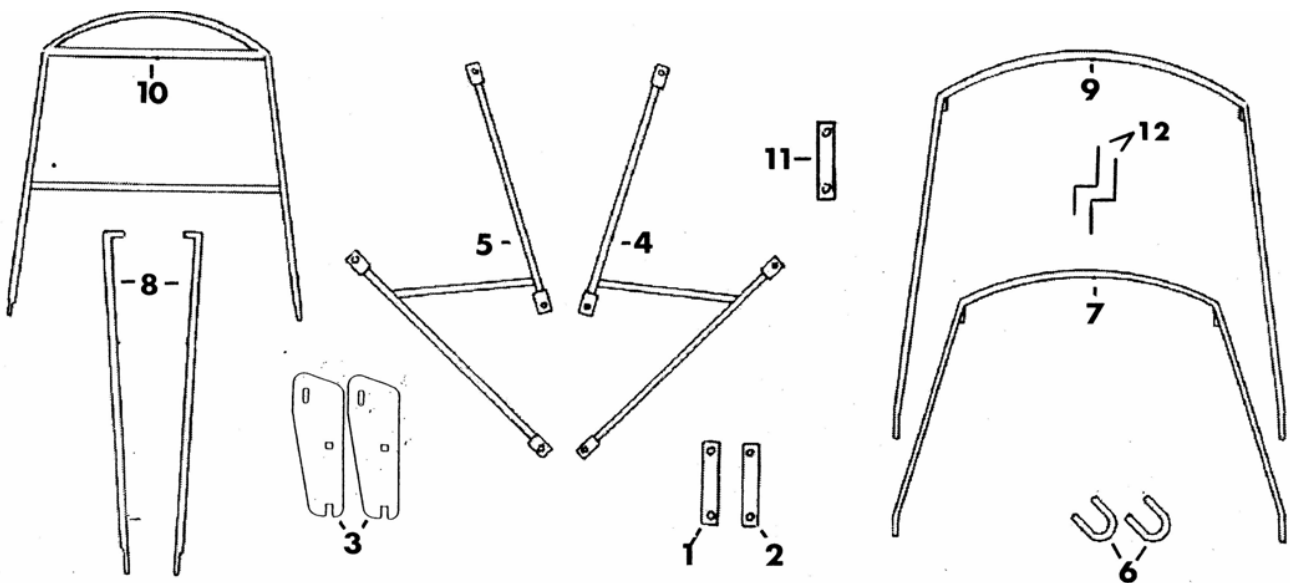

Figure 1
Step 1; See Figure 1:
Identify all of the metal parts using Figure 1 as an example.